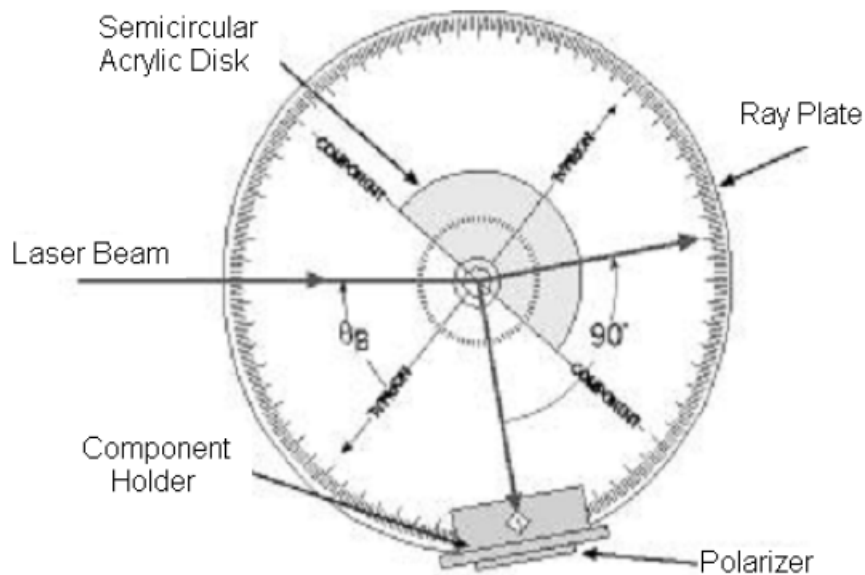

Figure 7
- 1 Set up the acrylic disk as in Part 1. Slowly rotate the ray table clockwise until the angle between the refracted and reflected rays is 90° (see Fig. 7). Record the angle of incidence as θ_{B1} . Without moving the acrylic disk, repeat the measurement (θ_{B2}), this time rotating the ray table counterclockwise.
- 3 Attach the polarizer to the ray table component holder and set it up on the ray table so that it is in line with the reflected ray (see Fig. 7). Observe the intensity of the light that passes through the polarizer on a viewing screen as you rotate the polarizer. If the polarizer does not rotate easily, the effect can be observed by simply holding and rotating the polarizer with your hand.